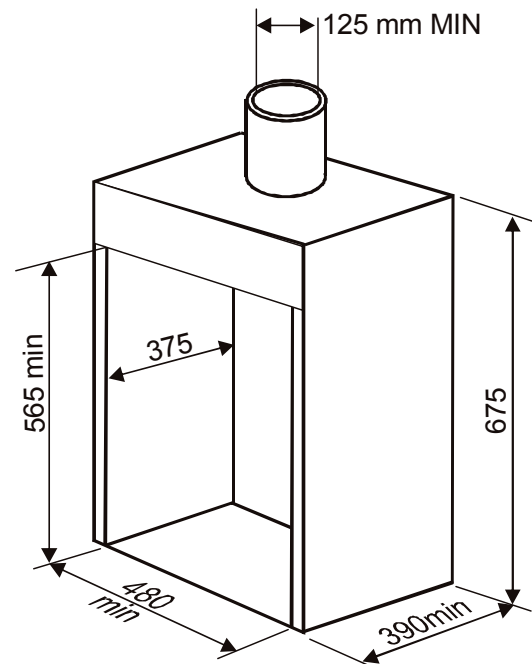

Figure 41 – Minimum Dimensions of Metal Flue Box
3. Any metal flue box must comply with BS 715 and have minimum dimensions as shown in **Figure 41**. There must be a minimum of 50mm clearance from any combustible material; alternatively the box may be insulated with 25mm Rockwool or equivalent. The top of the box must be insulated with 25mm Rockwool or equivalent.